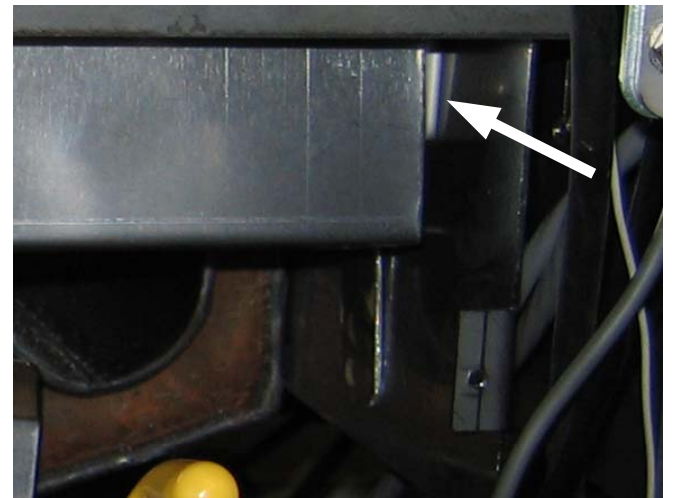

Figure 9: Rotate and lift the brace to clear the upper tab.
D. Rotate the brace away from the frypot (toward the front of the fryer). Move it up until the top edge is over the top/back tab (Figure 9). Rotate the brace back toward the frypot until the keyholes point down again.